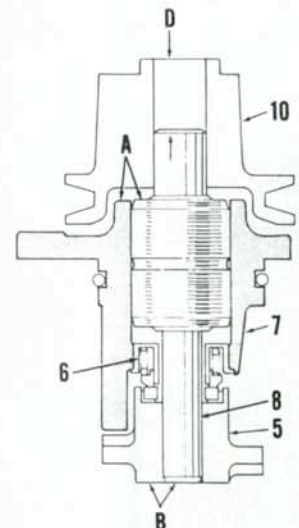

Fig. 143—Cross section of water pump used on 1100, 1110, 1200 and 1300 models. Refer to text for assembly dimensions (A, B and D) and to Fig. 142 for legend.
ference of seal (6). Install seal into housing by pressing carefully on outer edge of seal. Install shaft and bearing assembly (8) into housing by pressing on outer edge of bearing until front end of bearing is flush with front of housing as shown at (A—Fig. 143). Press impeller (5) onto shaft until surfaces (B) are flush as shown. Support impeller and shaft surfaces (B), then press drive hub (10) onto shaft until distance (D) is 36 mm (1.417 inches) 1110 models, or 39.5 mm (1.555 inches) for 1100, 1200 and 1300 models.